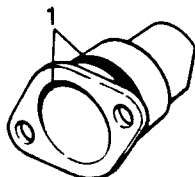

Fig H1.83
- (5) Refer to Fig H1.83. Remove the pinion oil seal and the sleeve ring (1).